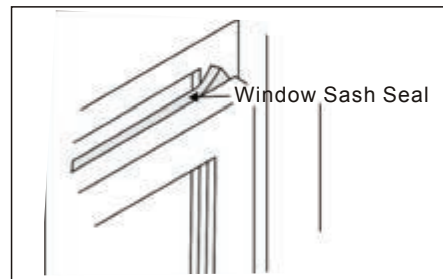

Fig. 16
1. Trim sash seal to fit window width. Insert into space between upper and lower sashes. (See Fig. 16.)